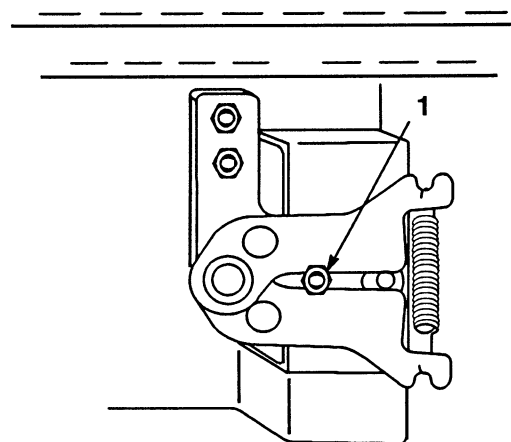

Figure 7
2. Loosen locknut securing adjustment (Fig. 7).
3. Move adjustment stud up or down until creep is minimized (Fig. 7). There may still be some wheel rotation with wheels off the ground.
4. Tighten the locknut (Fig. 7). Move the traction control pedal forward and reverse and allow it to center. Verify that there is still no creep with the wheels on the ground.